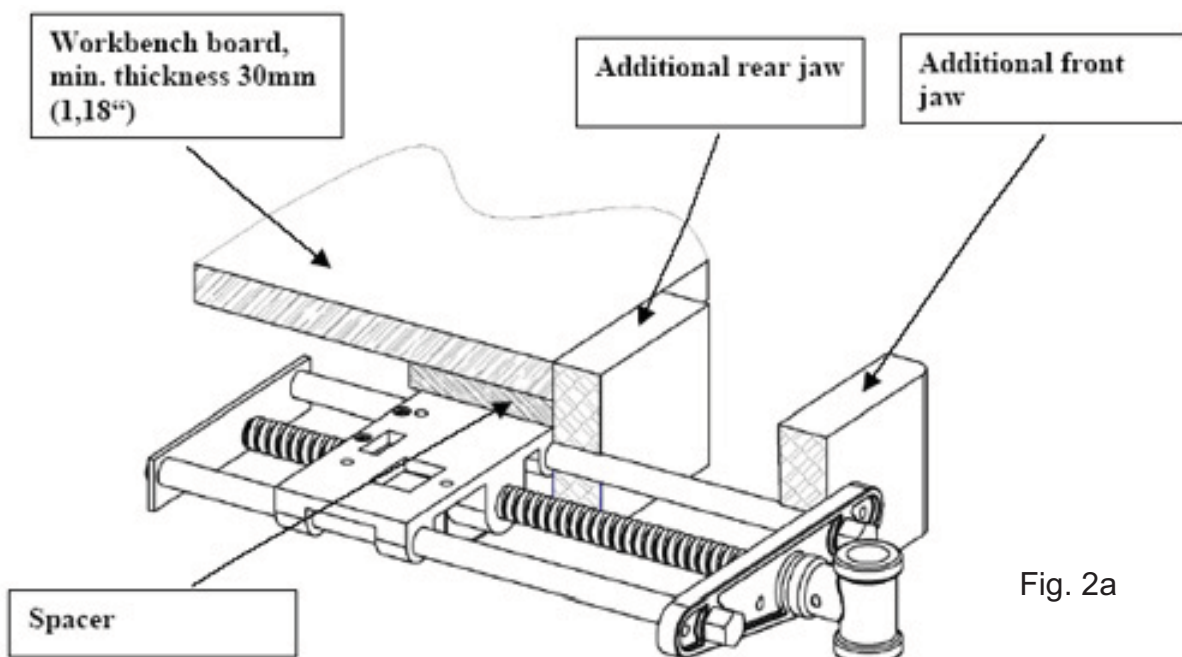

Fig. 2a
The wood vice is mounted to the underside of a workbench flush with the outside edge. The exact position is selected depending on the design of the workbench and HVQ vice size. We recommend positioning the HVQ vice in one of the workbench's corners, while taking into account the free movement of guide rods (6) and brace (8) especially in the vice's end positions. The most common HV vice installation is illustrated in Fig. 2a, 2b, 2c.
Installation on workbench with additional rear jaw - Fig. 2a